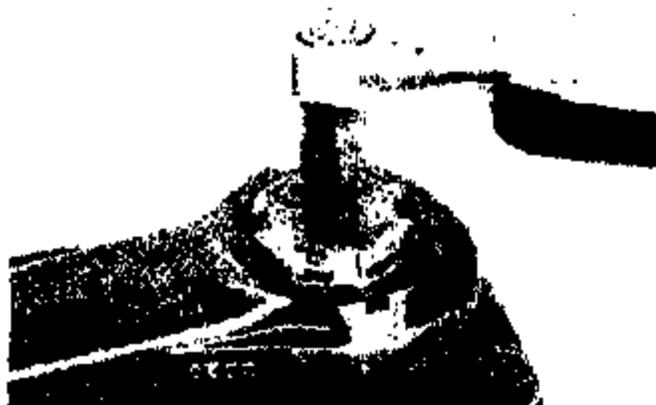

Figure 12
- Use the 5/8" or 3/4" allen head socket and torque wrench to install the retainer in the output shaft by tightening the retainer (Figure 12) according to Table 1.